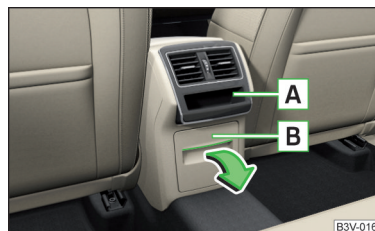

Fig. 123
In the rear centre console there is an equipment-dependent open storage compartment **A** and a lockable storage compartment **B** » Fig. 123.
- » To **open**, pull the storage compartment **B** on the upper part of the recess and fold down the compartment in the direction of arrow » Fig. 123.